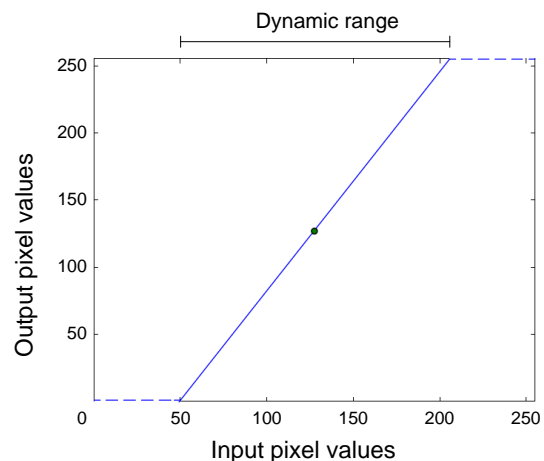

Fig. 38: Contrast = 0.3, Brightness = 0,
The higher the contrast, the more output pixel values will be set to completely black (0) or completely white (maximum pixel value). In the example shown in Figure 38, input values from 0 to approximately 50 are set to completely black, and input values from approximately 205 to 255 are set to completely white.